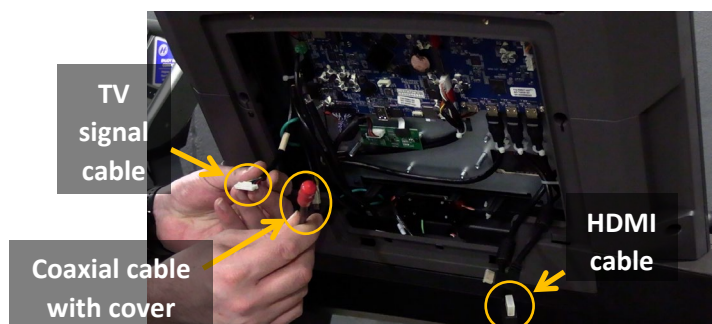
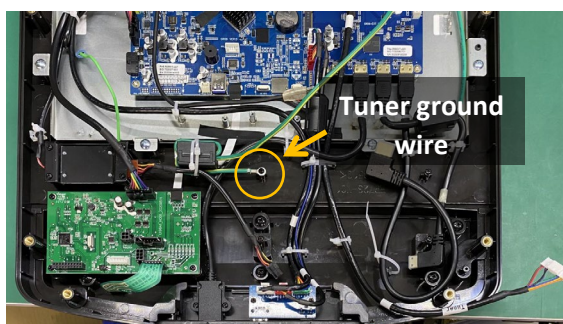

Figure 4
Figure 5
2. The wires for the tuner are preinstalled in the console. Locate the unconnected wires and gently pull them outside of the console cover (Fig. 4). **Note:** The SUR-600E console also has a tuner ground wire which is attached to the top left post for the tuner control board (Fig. 5). The T600E console does not have a tuner ground wire.